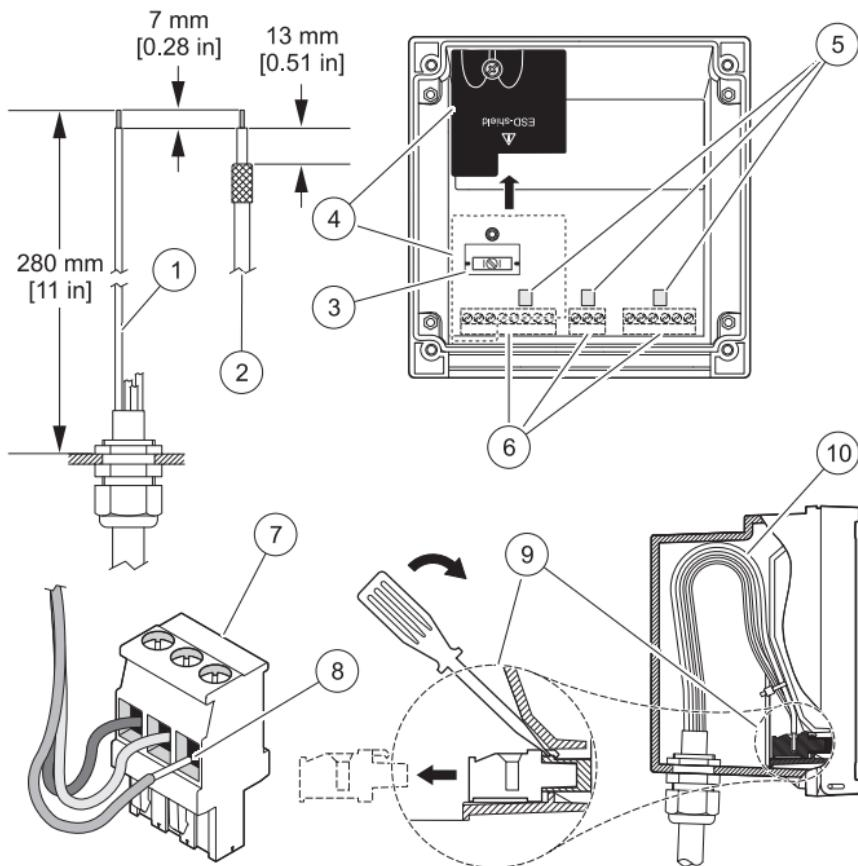

Figure 3 Wire preparation and insertion
2. Use the screwdriver as a lever to lift the terminal block off the connectors (see **Figure 3 on page 22**).